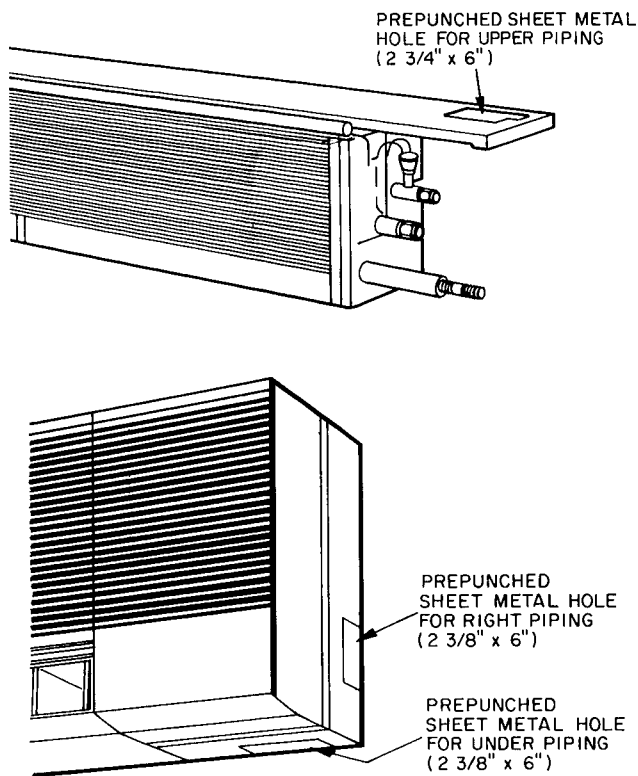

Fig. 6 — Pre-punched Sheet Metal Holes
1. Decide how refrigerant will be piped. If it is necessary, knock out the appropriate pre-punched sheet metal holes (Fig. 6) on unit for piping and electrical connections.